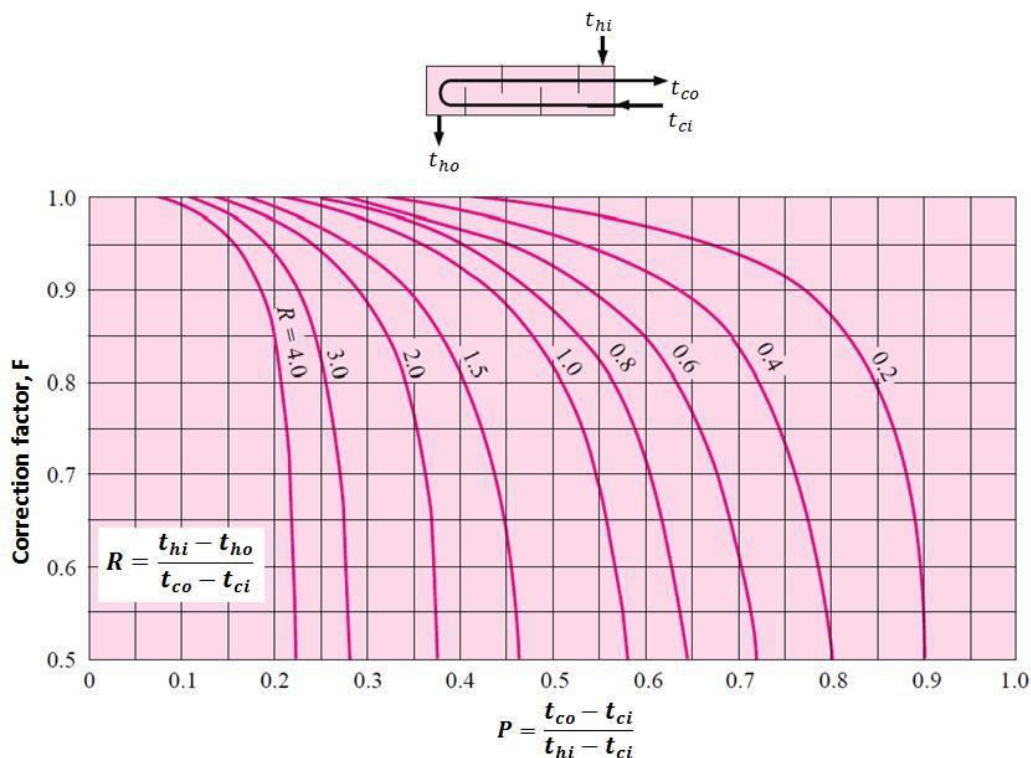

Fig. 9.10 Correction-factor plot for exchanger with one shell pass and two, four, or any multiple of tube passes
- Correction factors for several common arrangements have been given in Figs. 9.10 to 9.13.